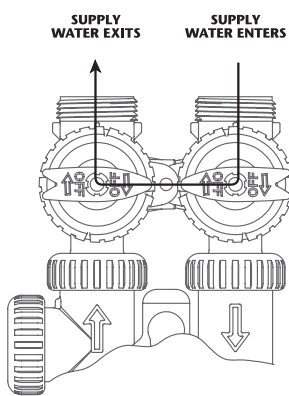

FIGURE 2
2. **BYPASS POSITION:** The inlet and outlet handles point to the center of the bypass. The system is isolated from the water pressure in the plumbing system. Untreated water is supplied to the building (**Fig. 2**).
1. Rotate bypass handles to the bypass mode (**see Fig. 2 of page 4**).